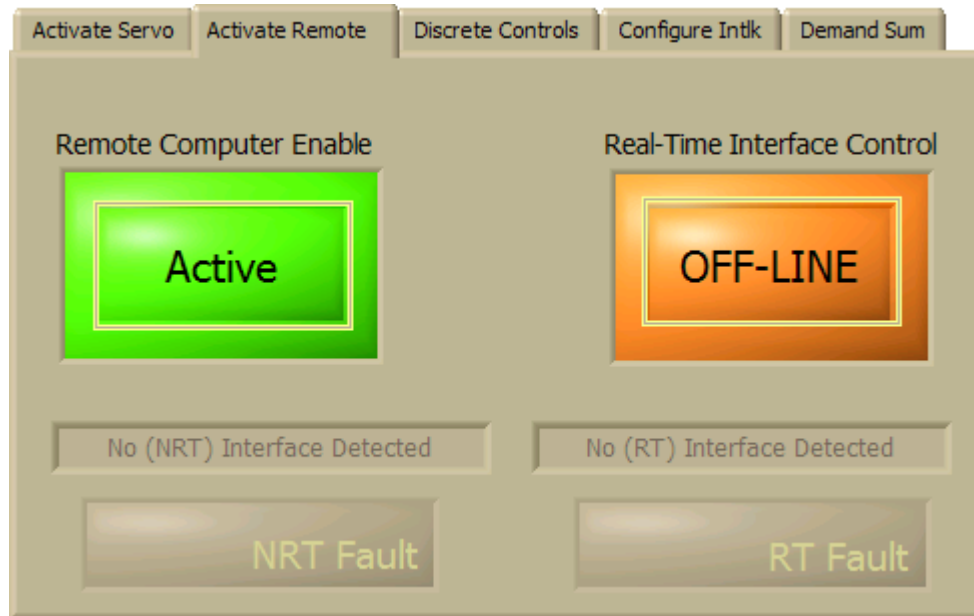

Figure 4-15 ACTIVATE REMOTE Sub-Panel
The **ACTIVATE REMOTE** Sub-Panel (see Figure 4-15) is used to enable (or disable) both the real time (RT) and non-real time (NRT) interfaces. GPIB and TCP/IP are examples of NRT interfaces; SCRAMNet+ and VMIC are examples of RT Interfaces.
Figure 4-15 shows the default configuration for the NRT and RT interface, i.e. the NRT interface is enabled (active) and the RT interface is disabled (offline).